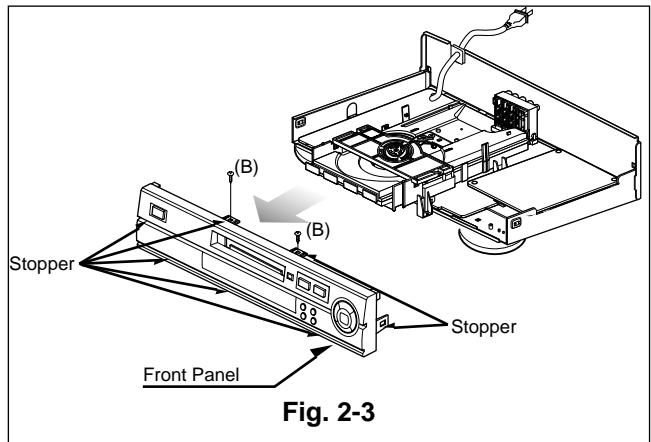
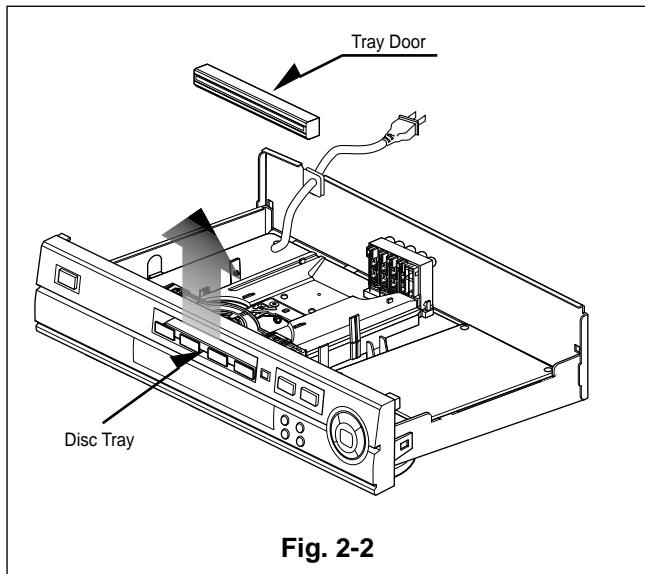

Fig. 2-3
Fig. 2-2
1. Eject the disc tray. (See Fig. 2-2)
2. Remove the tray door. (See Fig. 2-2)
3. Release 2 screws (B).
4. Pull the front panel toward you while pressing 7 stoppers to disengage, and remove the front panel. (See Fig. 2-3)
1. Remove the front panel.(See Fig. 2-3)
2. Release 4 screws (E), and remove the Key1, 2 circuit board.